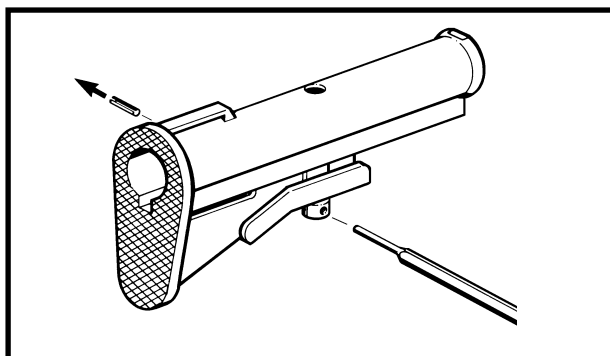

Figure 3-2-58 Removing the Release Lever Nut Pin
- a. With the buttstock release lever nut adequately supported, drive out the release, lever nut pin. See Figure 3-2-58;